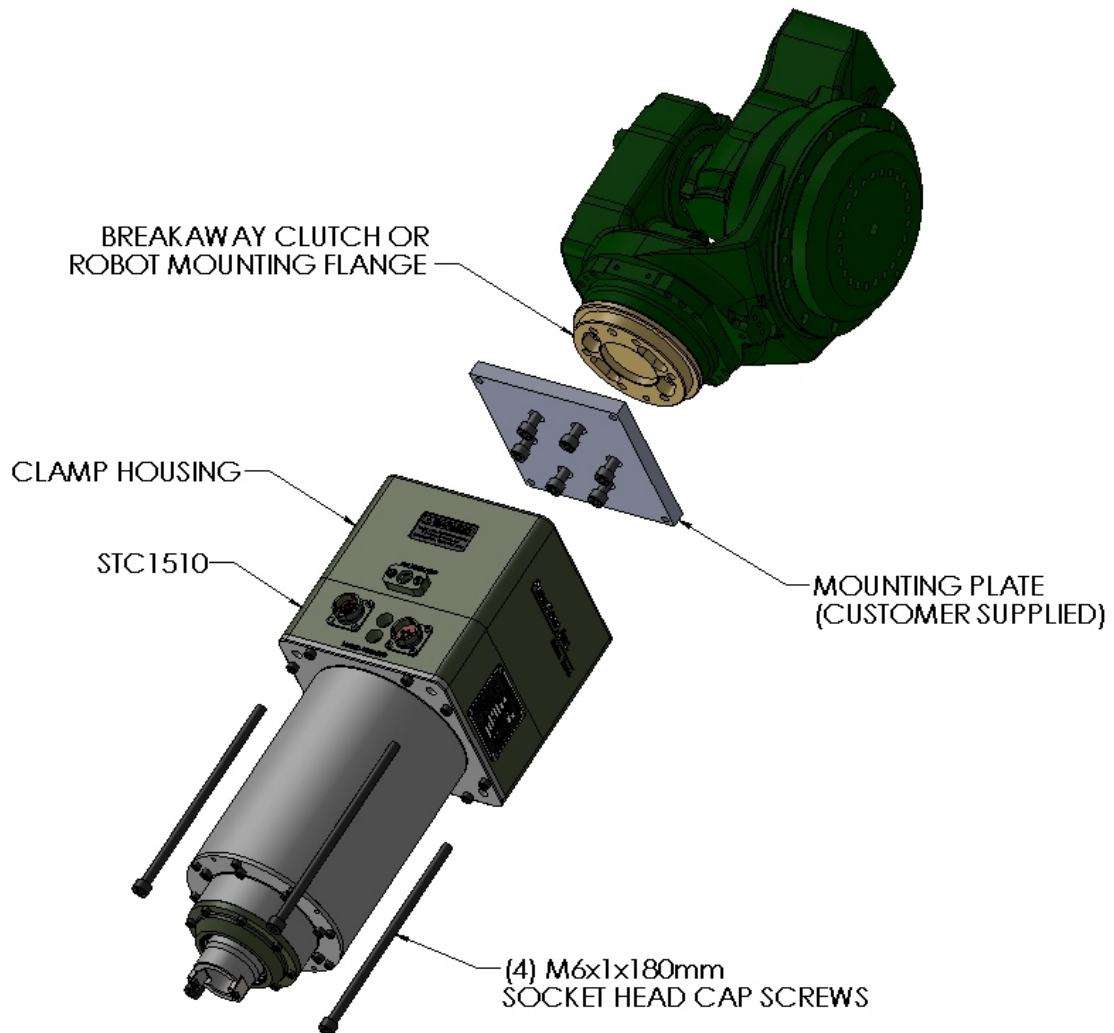

Figure 2. STC1510 Direct Mounting
To mount the STC1510, first attach the Mounting Plate to the Robot Mounting Flange or to the Breakaway Clutch, per the manufacturer's specifications. Once the Mounting Plate is secured, place the STC1510 against the Mounting Plate and install (4) four, M8x1.25X180mm, Socket Head Cap Screws. (See Figure 2.) Tighten the fasteners to the torque specified in Section 4.0.